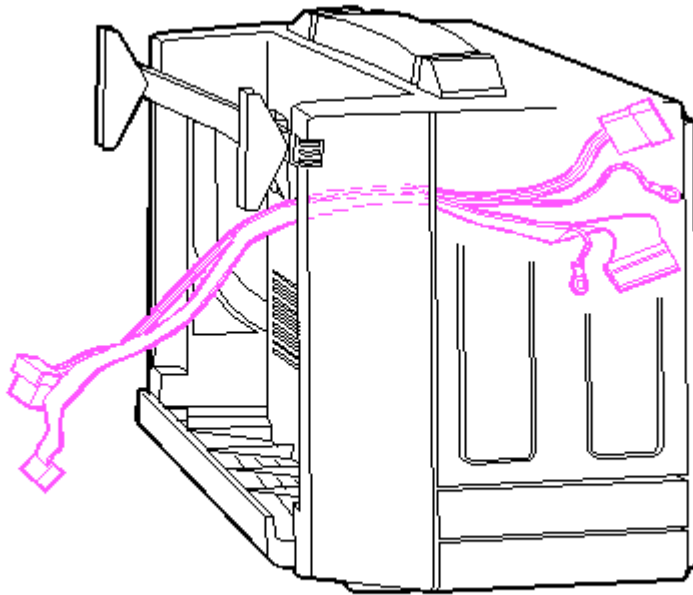

Figure 8-93. Guiding the Display Cables Through the Main Enclosure Openings
13. Guide the display power cable assembly and the display data cable assembly through the opening in the main enclosure wall (Figure 8-93).